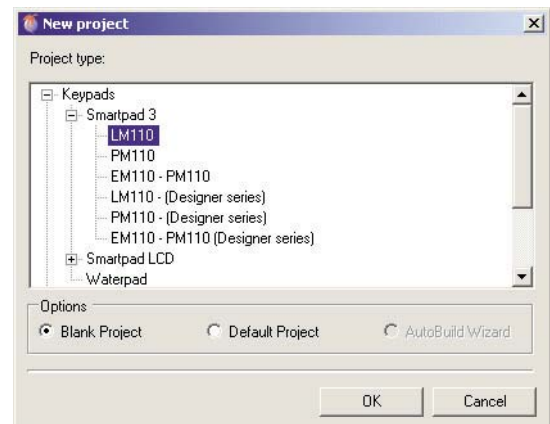

Figure 2: New Project window
1. Go to the *File* menu and select *New Project*. The New Project window appears (see *Figure 2*).